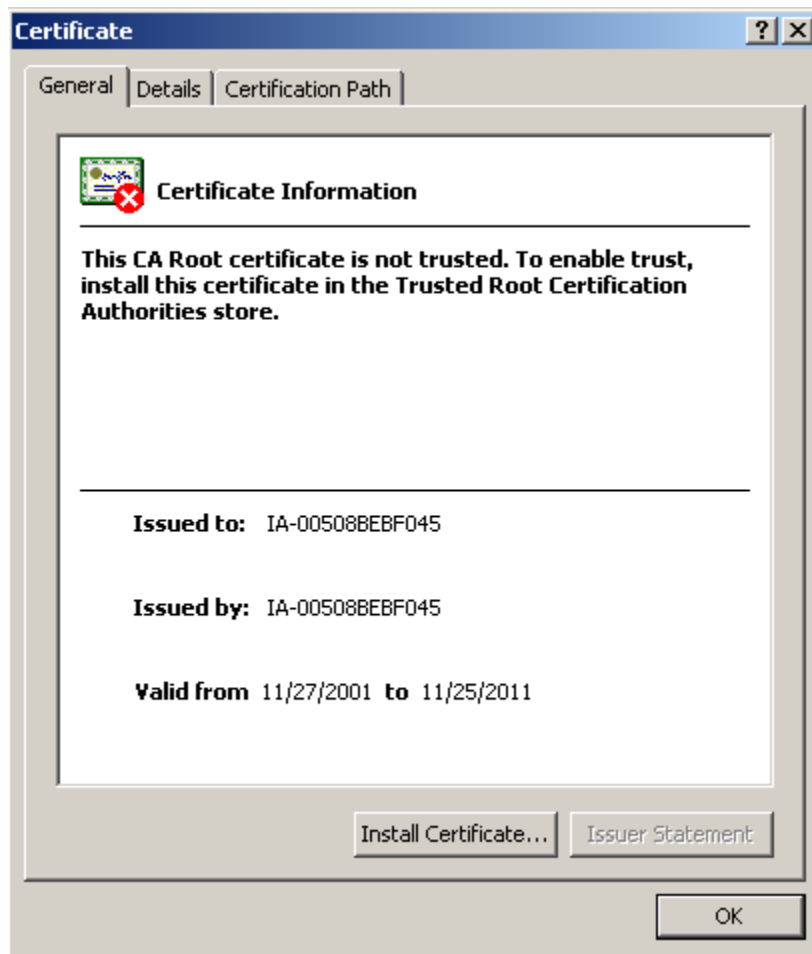

Figure 2-4: Certificate Information window
- If you click **View Certificate**, a popup window displays the certificate information, as shown in Figure 2-4. Installing the certificate to your browser prevents the security alert message from displaying in the future.